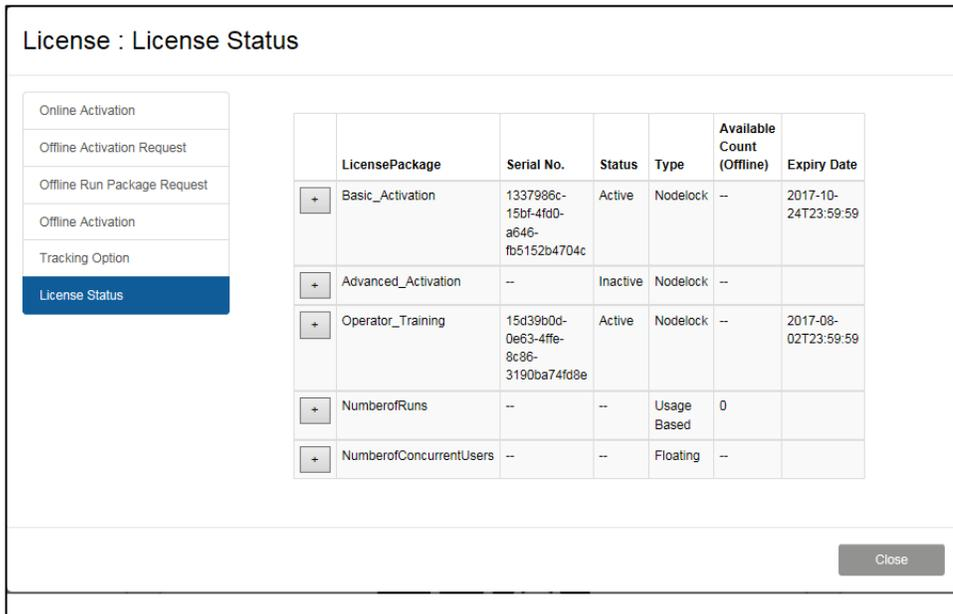

Figure 37: License Status screen
- 1) On the top, right-hand side of the main page, click **License** and then **Status**. The License Status screen displays with details about each license package (Figure 37).